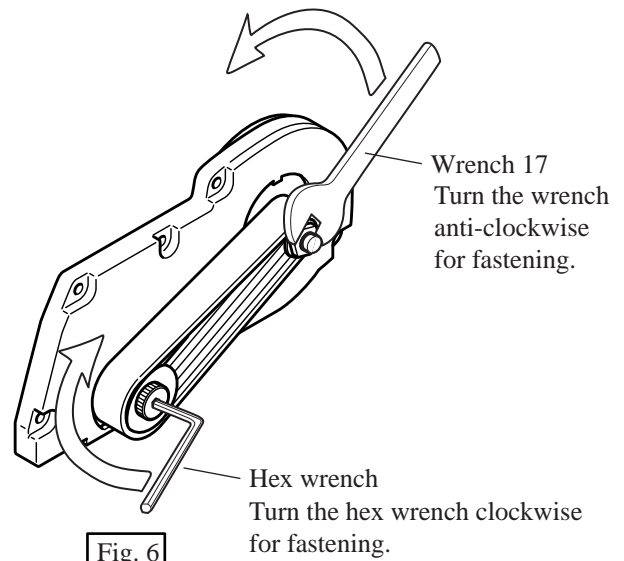

Fig. 6
(3) Fasten hex socket head bolt M6x12 and hex nut M10-17 firmly until both V-pulleys turn as illustrated in Fig. 6.